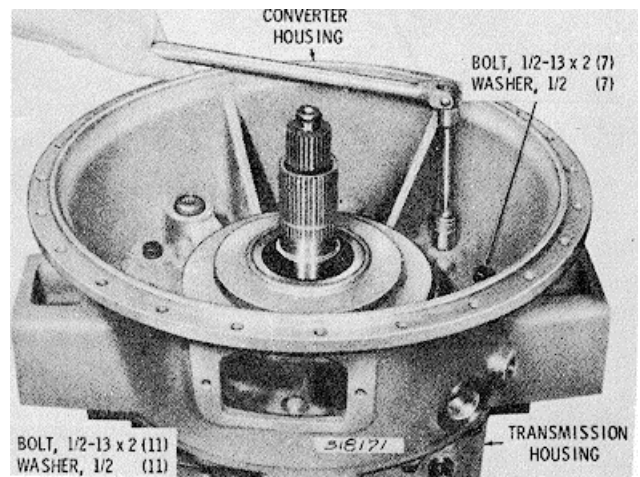

Fig. 7-37. Installing converter housing bolts
(7) Install seven 1/2-13 x 2-inch bolts and washers at the inside of the converter housing (fig. 7-37). Tighten the bolts 67 to 80 pound feet (90 to 108 Nm) torque.
(9) Install nine 1/2-13 x 2-inch bolts and washers through the transmission housing into the converter housing (fig. 7-37). The two remaining bolts and washers cannot be